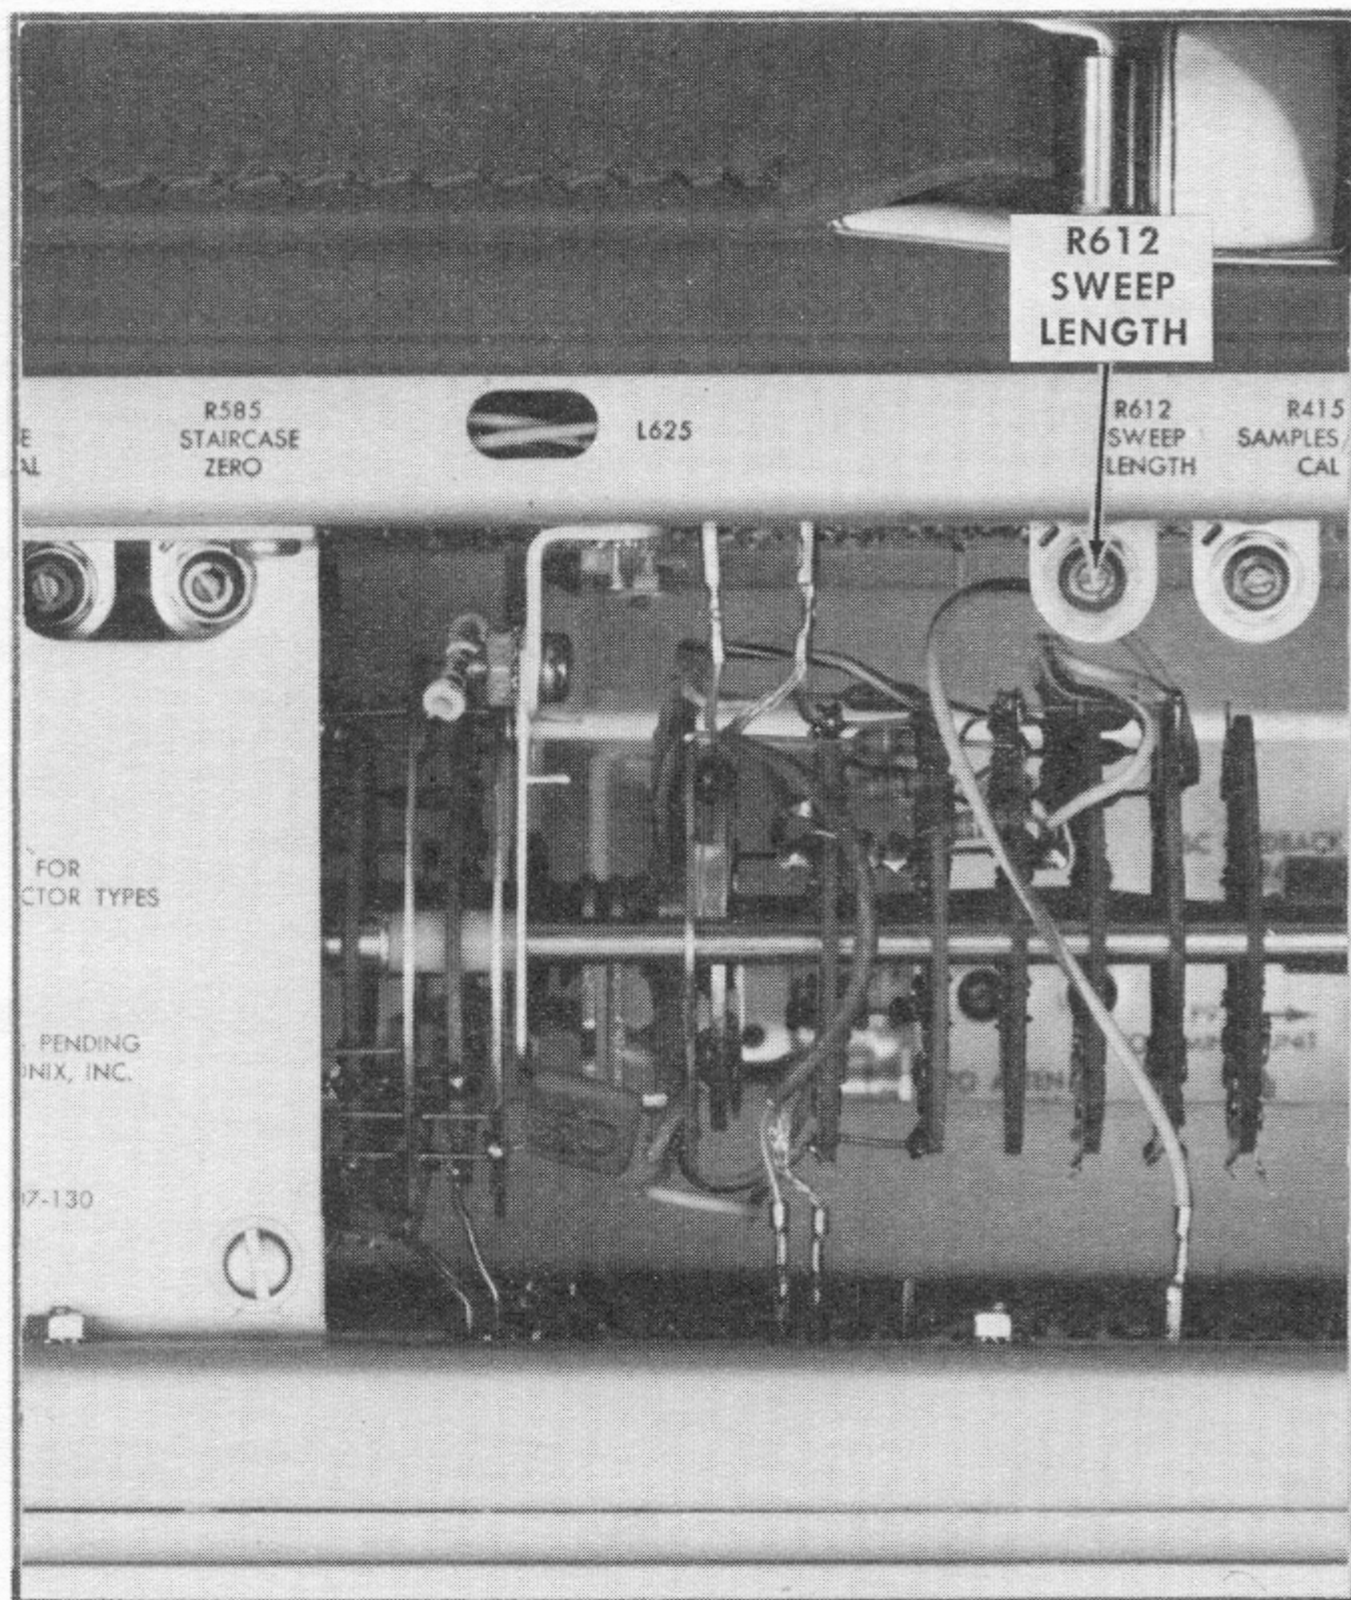

Fig. 6-13. Type 5T3 sweep length control location.
- b. Adjust the Timing Unit internal Sweep Length control (located at the top side of the Type 5T3, Fig. 6-13), so the Type 661 sweep length is exactly 10 centimeters long. Carefully center the trace.